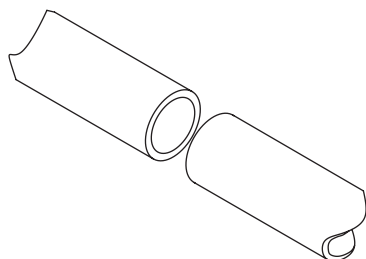

Figure 9.5
- (c) Figure 9.5 shows two aluminium tubes 40 mm diameter with a wall thickness of 3 mm. Each tube is 2 metres long. Use sketches and notes to show a method of joining the tubes without increasing the diameter at the joint. The method used should allow the joint to be taken apart and resist tension.